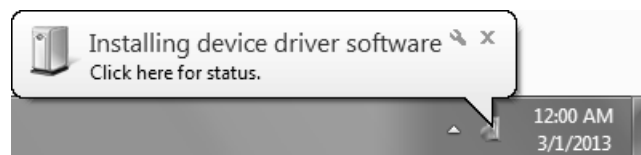

Figure 2.2.2 Installing device driver software
1. The balloon hint is displayed at the lower right of the screen as shown in Figure 2.2.2.